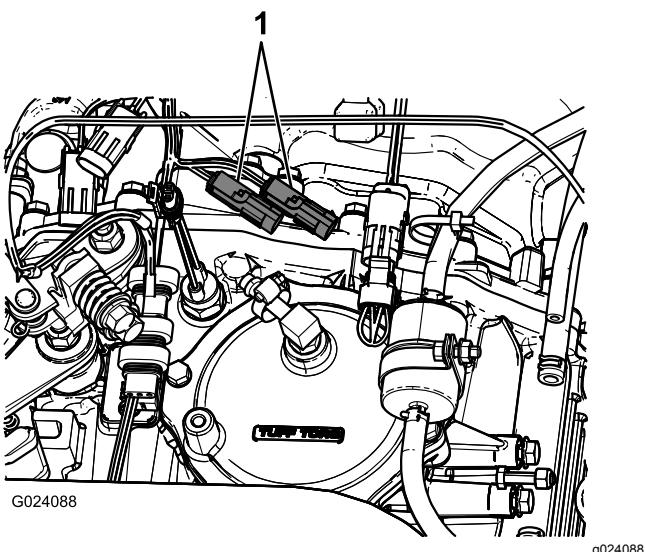

Figure 16
2. At the transaxle of the machine, connect the 3-pin connector of the wiring harness of the machine for speed sensor into the 3-socket connector of the sprayer harness for the speed sensor (Figure 16).